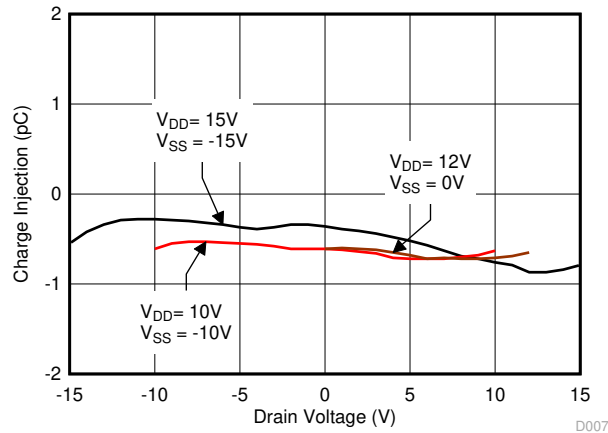

图 7-15. Charge Injection vs Drain Voltage
The TMUX6136 utilizes special charge-injection cancellation circuitry that reduces the drain (D)-to-source (Sx) charge injection to as low as -0.4 pC at $V_S = 0 \text{ V}$, as shown in 图 7-15.